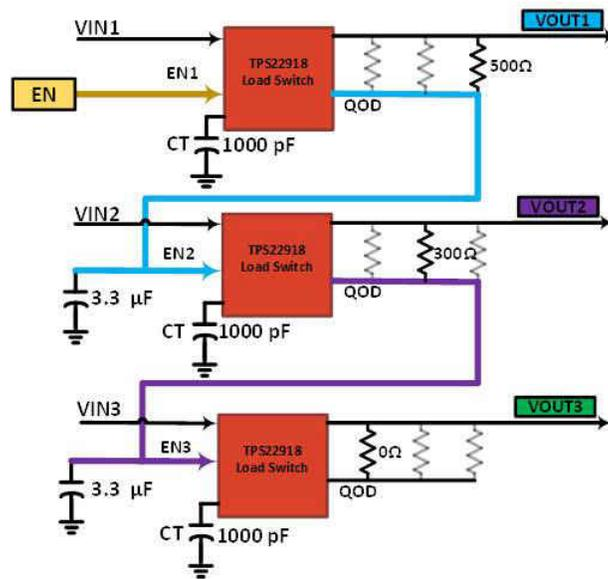

Figure 4. QOD Configuration
Figure 4 routes the QOD output of the previous load switch to the enable pin of the next load switch. Adding an external resistor-capacitor (RC) in parallel to the QOD output achieves power-up sequencing. Once more, varying the resistance on the QOD pin achieves power-down sequencing.